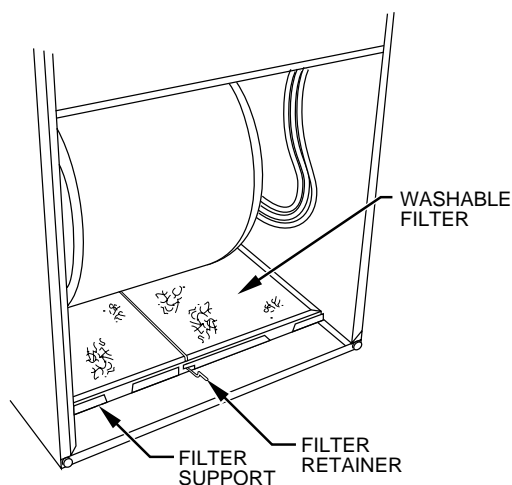

Fig. 3—Bottom Filter Arrangement
3. Release filter retainer wire. (See Fig. 3 or 4.)